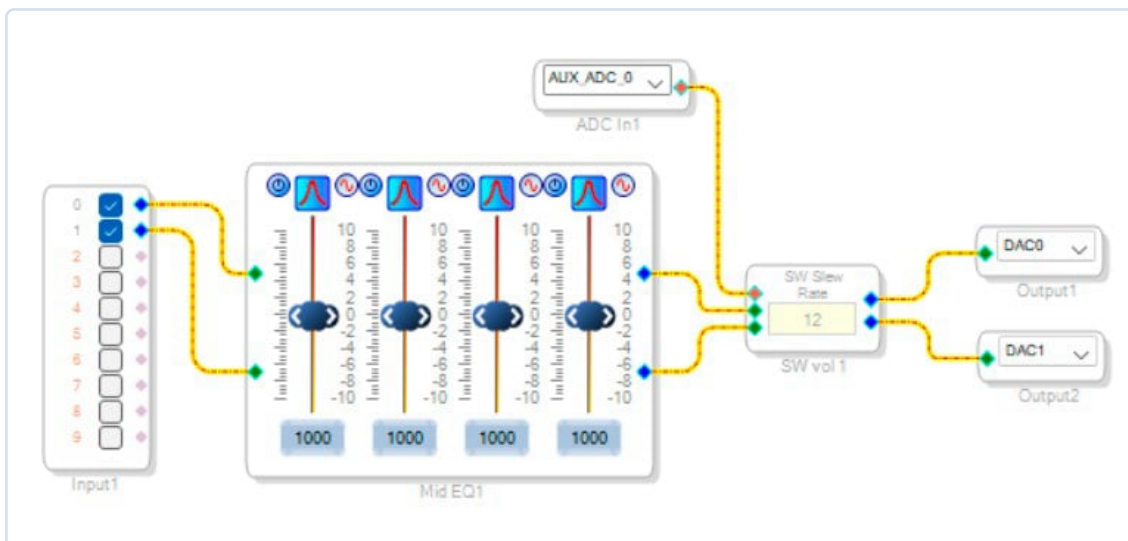

Figure 5: Programming in SigmaStudio consists of dropping blocks on a canvas and then drawing wires between them.
- > Connect the blocks as shown in **Figure 5**.